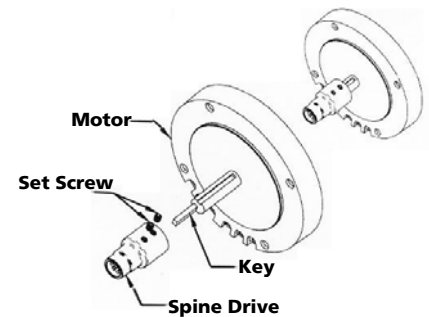

Figure 8-Motor Shaft Coupler
1. Remove four bolts from pump body and gently pull pump assembly from motor, replace motor if necessary, see Figure 8.